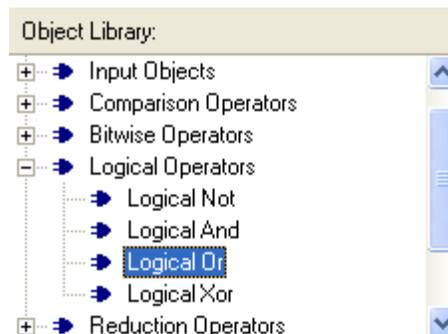

Figure 23. Select the Logical Or operator from the Object Library window and drag this into the editing window.
- We now need to add the necessary logical operators to our circuit. We will need an OR gate as well as three edge level detectors. To access the OR gate, click on the plus sign next to Logical Operators and select Logical Or, as in Figure 23. Then drag and drop the operator into the editing window.